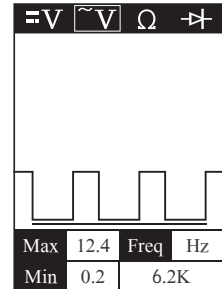

Figure 10
- ◆ Release vacuum and observe the LCD readings. (Figure 10)